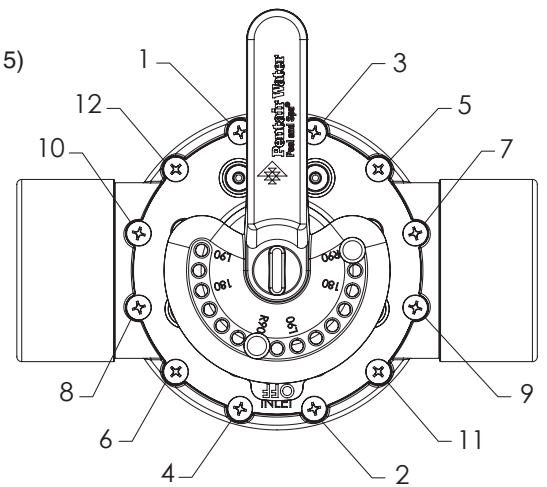

Figure 4. Diverter valve cover screws (Tightening Sequence)
To install the diverter valve top cover (see Figure 4 and 5):
3. Install the twelve (12) cover screws. Using a No. 2 Phillips screwdriver, torque the screws sequentially to 36 lb\*in (4.1 N\*m), using the crisscross tightening sequence shown in Figure 4.